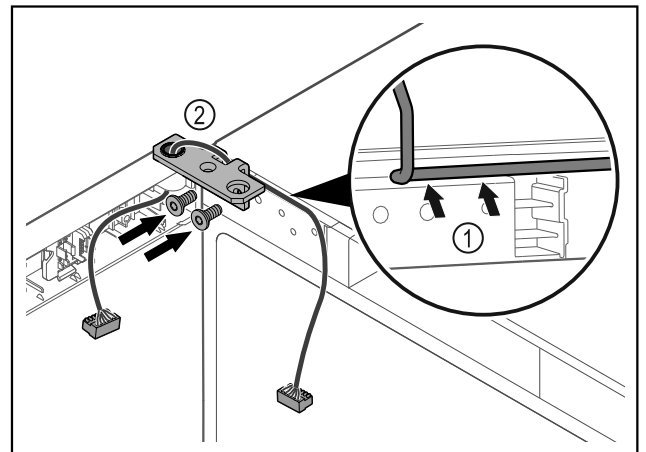

Fig. 40
- ▶ Feed the cable through the recess in the hinge and lay it carefully Fig. 40 (1).
- ▶ Screw on the hinge Fig. 40 (2).